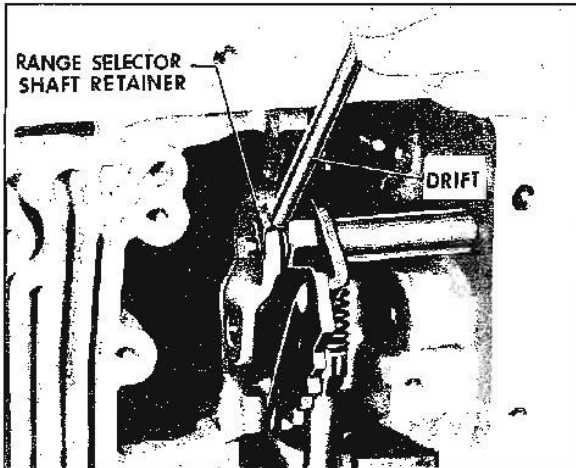

Fig. 7B-114 Installing Range Selector Shaft Retainer
5. Install parking lock bracket in case and tighten bolts to 8-12 lb. ft. torque (Fig. 7B-115).